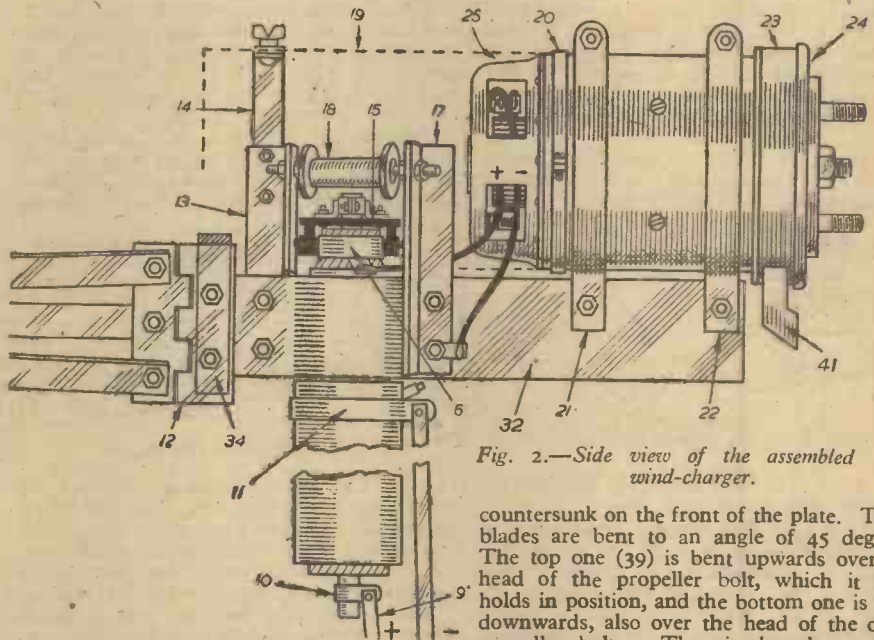

Fig. 2.—Side view of the assembled wind-charger.
this latter purpose alone. A small cake tin (23), with a diameter the same as that of the front plate of the dynamo, is held in position by the screws that hold the front plate. The screw heads will force the tin to the shape of the countersunk holes. Six ½ in. holes (38) are drilled through the tin and front plate. Two intake "scoops" (41) Figs. 2 and 4, are shaped and soldered to the bottom of the cake tin, where they will pick up the least rain. One of these can be seen in the first illustration on page 186.
countersunk on the front of the plate. These blades are bent to an angle of 45 degrees. The top one (39) is bent upwards over the head of the propeller bolt, which it then holds in position, and the bottom one is bent downwards, also over the head of the other propeller bolt. The air draught emerges through the brush inspection holes and the gap (25) Fig. 2. A strong plate, 6 in. by 4½ in., is used as a "washer" between the front of the propeller blade and the two nuts that hold it, since large local strains in the timber cause it to split at high speeds. A single 1 mfd. condenser is connected across the brushes, to prevent radio interference. The method of mounting the turntable on a wooden pole is clear from the photographs.